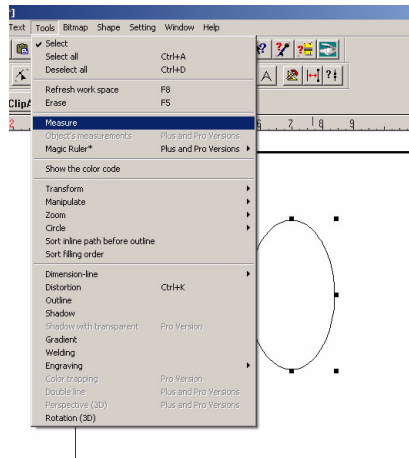

Figure 129
- 1 From the **Tools** menu, click **Measure**. See figure 129.